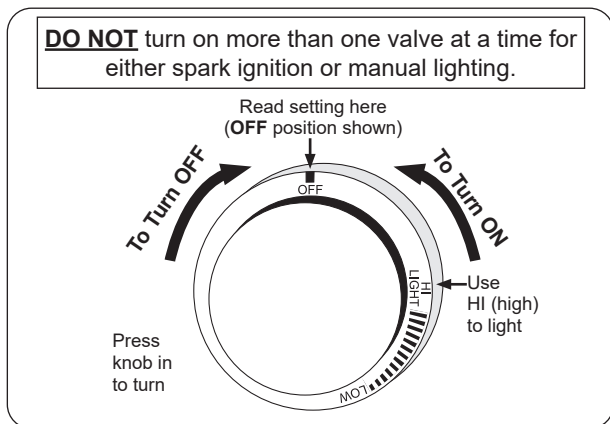

Fig. 31-1 Control knob
4. Depress the desired control knob, and while pressing turn it counterclockwise to the **HI LIGHT** position (Fig. 31-1). Once the burner lights, release the knob.